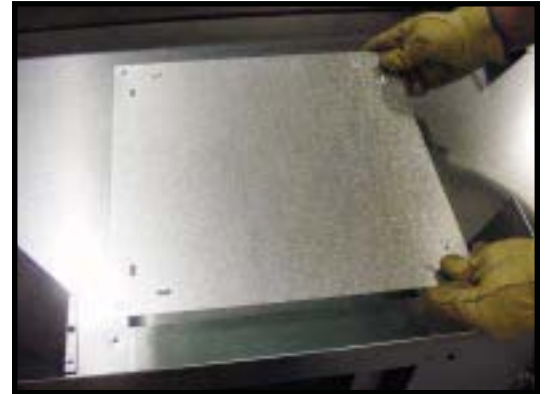
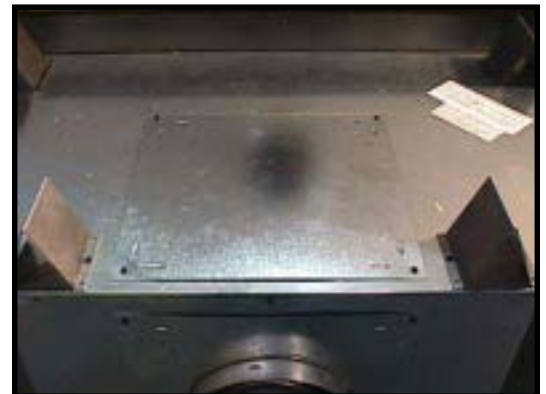

Figure 19 - Plate on Top
Figure 20 - Plate into Place
15. Locate the cover plate removed in Step 6. Place the plate on top of the appliance. See Figure 19. Replace the four screws to hold this plate in place. See Figure 20.